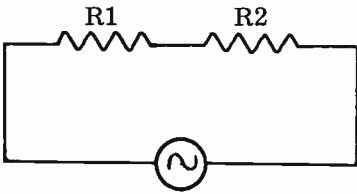
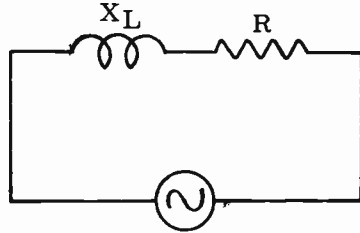

FIG. 4-15A.
FIG. 4-15B.
**IMPEDANCE OF AN INDUCTIVE CIRCUIT.** In Fig. 4-15A, the total resistance which opposes the flow of current is  $R_1 + R_2$ . The total resistance to current flow in a series circuit is the sum total of the individual resistances. If the circuit consists of resistance and inductive reactance, as shown in Fig. 4-15B, the total resistance to the flow of current is called the **IMPEDANCE**. The symbol for impedance is  $Z$ . The unit of impedance is the ohm. Unlike the resistive circuit, the impedance of an inductive circuit is **NOT** equal to the simple sum of the resistance and the inductive reactance.